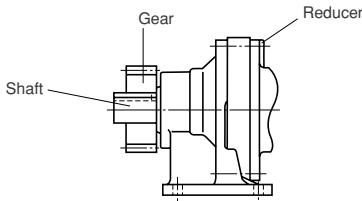
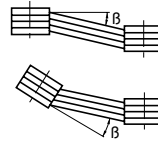

Fig. 3
Fig. 4
(2) When Using a Chain Sprocket and Gear
- Install sprocket and gears so that their point of load application will be closer to the reducer side with respect to the length of the shaft. (Fig.3)
(3) When Using a V-belt
- The parallelism and eccentricity (β) between two pulleys should be within 20'. (Fig.4)